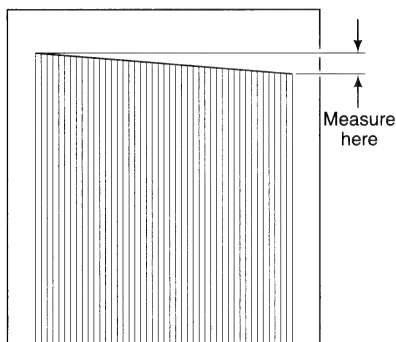

Figure 12 Measuring the Adjustment Error
4. Measure the error between line 1 and line 2, as shown in Figure 12.